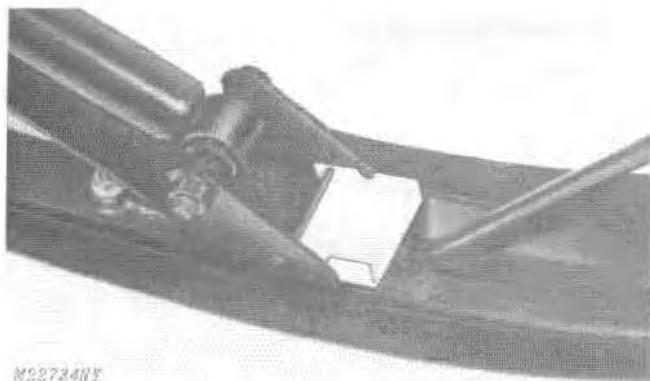

Fig. 8-Replacing Wear Plate
1. Remove cotter pin and drilled pin securing end of ski spring. Lift spring up and remove wear plate, Fig. 8.